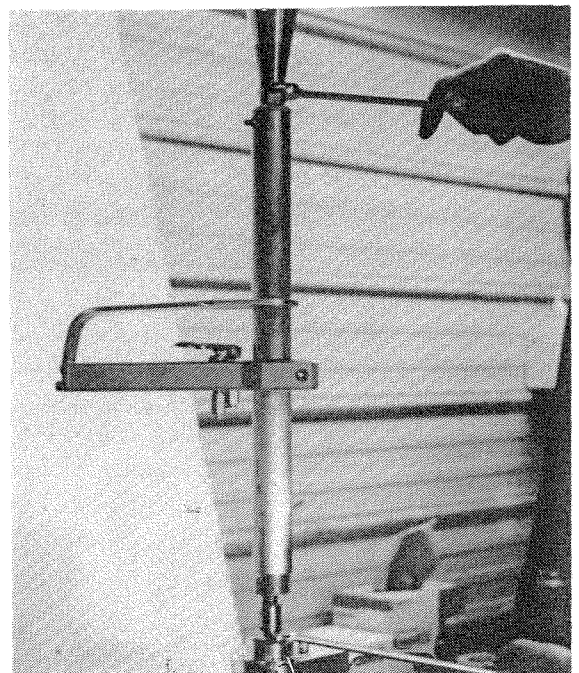
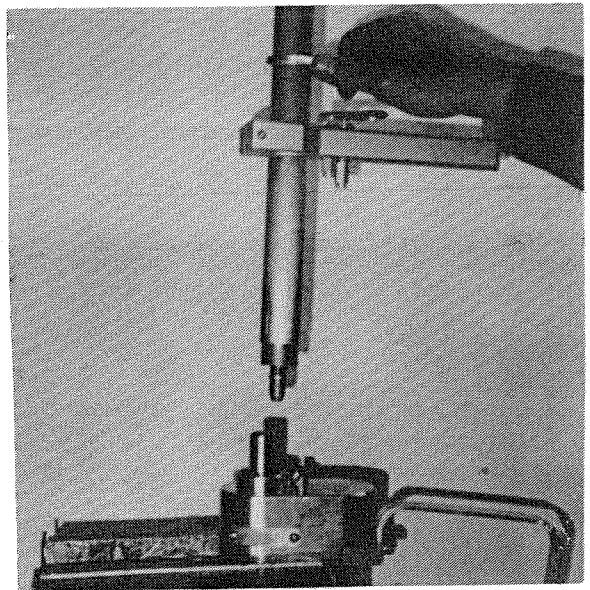

FIGURE 5-14
FIGURE 5-15
- C. RAISE THE DISCHARGE BARREL, (#18) HOUSING TO EXPOSE THE FLAT ON THE SWIVEL SHAFT. WITH ONE WRENCH ON THE SWIVEL SHAFT AND ONE ON THE ROTATING HUB, SEE FIGURE 5-14, UNSCREW THE DISCHARGE BARREL, AND REMOVE THE DISCHARGE BARREL HOUSING, NOZZLE HUB AND SIDE HANDLE AS A UNIT (SEE FIGURE 5-15).
- D. HOLDING THE SWIVEL SHAFT ON THE FLATS UNSCREW THE DISCHARGE BARREL AS SHOWN IN FIGURE 5-14 AND REMOVE THE DISCHARGE BARREL, BARREL HOUSING, SIDE HANDLE AND NOZZLE AS A UNIT.